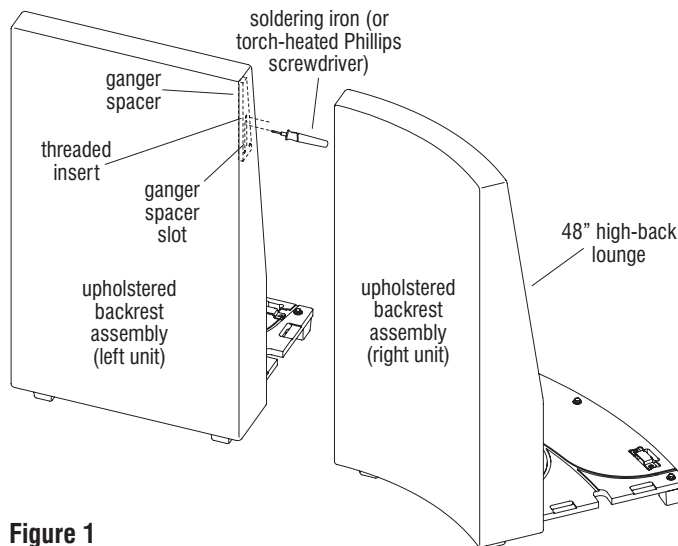

Figure 1
2. Proceed with ganger installation at the rear of the lounge units to be ganged. While facing the back, non user side of the lounge units, **hook gangers must always be assembled to the left unit** as illustrated in Figure 1 & Detail B.
3. Feel around the side, near the top of the upholstered backrest and locate the slot on the ganger spacer located under the upholstery (Figure 1 & Detail B).
4. As illustrated in Figure 1 & Detail A, at the covered threaded insert location (which is $\frac{1}{2}$ " above the top of the covered ganger slot), use a soldering iron or torch-heated Phillips screwdriver tip to burn a
hole through the upholstery, only into the one threaded insert behind the fabric. Open the hole up to $\frac{1}{2}$ " diameter. Do not poke/burn through the fabric in any other places at this time (Figure 1 & Detail B).